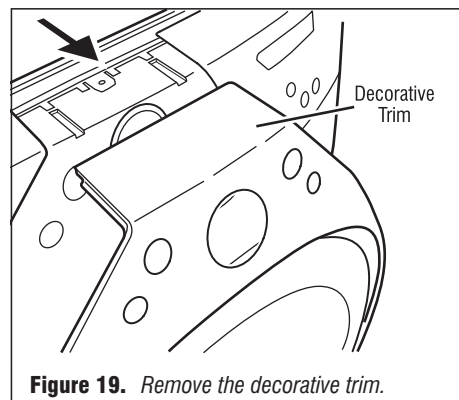

Figure 19. Remove the decorative trim.
3. Gently remove the decorative trim that surrounds the door and upper console by unsnapping it from the machine. See figure 19.